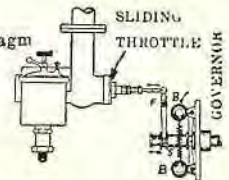

Fig. 18A
There are no pleasure cars using the governor. Nearly all truck, tractor, marine and stationary engines use governors. See Index under "Governors." One governor, which is a "throttling" type, is the centrifugal ball type illustrated in Fig. 18A, the principle of which, is, no doubt, familiar to all. The "sliding" throttle in the carburetor is actuated by the movement of the sleeve controlled by the balls (B). The balls fly out as the speed increases, causing the throttle to close. Another principle is that of the "hit and miss type."